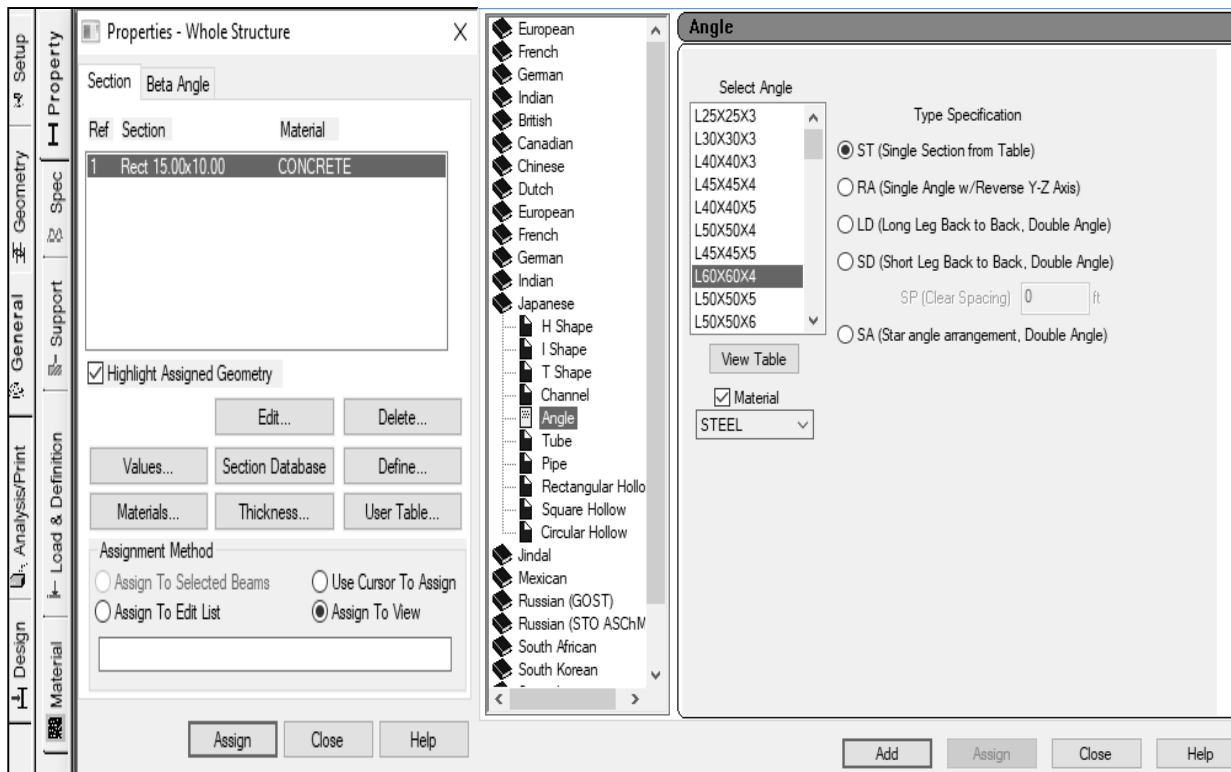

Fig: 4.7
2.1 Property: Section Database → Japanese → Angle → L60X60X4 → Material = STEEL → Add → Close then for Assign select the property and click on Assign to View → Assign → Yes. (Fig: 4.7)